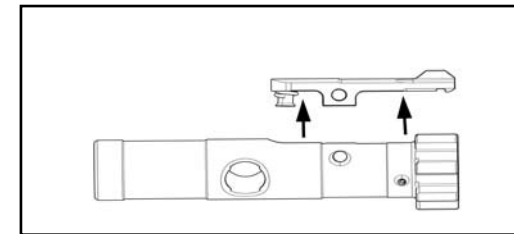

Fig. 30 – Separate the extractor from the bolt head
- h. Separate the extractor from the bolt head (Fig. 30).